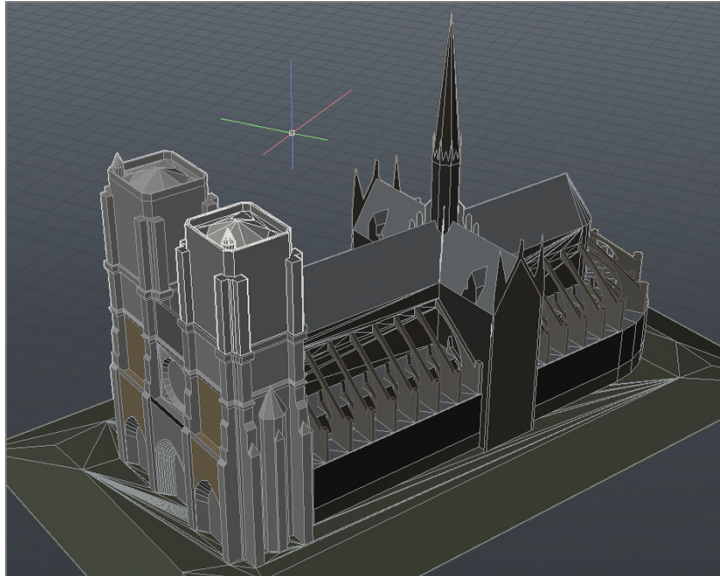

FIGURE 15.5 Viewing the imported Notre Dame cathedral 3D model in AutoCAD
6. From two separate in-canvas menus located in the upper-left corner of the drawing window, select Perspective and Shaded With Edges to better visualize the geometry (see Figure 15.5).